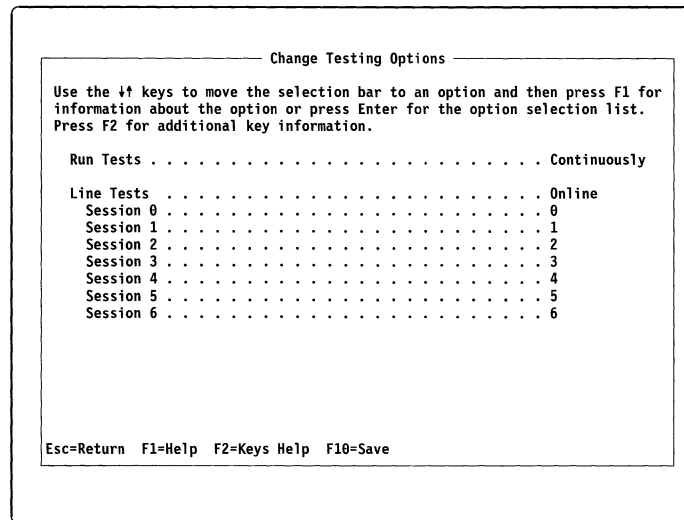

Figure 8. Change Testing Options Screen
3. Use the up and down arrow keys to move the selection bar to the “Change Testing Options” option. Then press Enter. The Change Test Options screen, similar to the one shown in Figure 8, appears. To move between fields on this screen, use the up and down arrow keys.